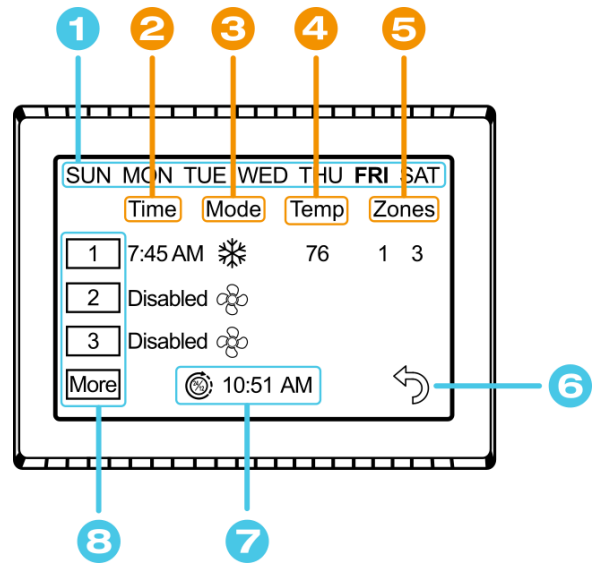
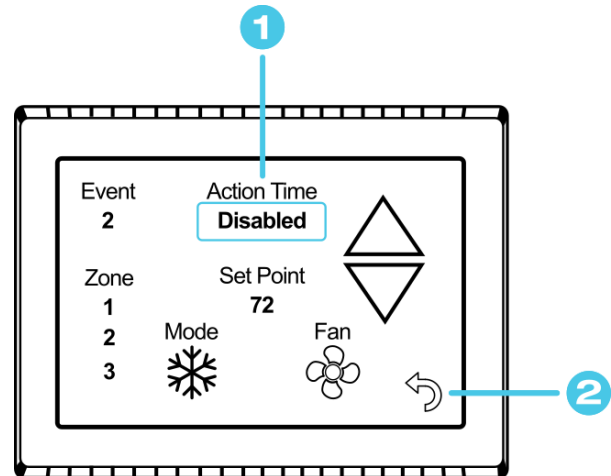
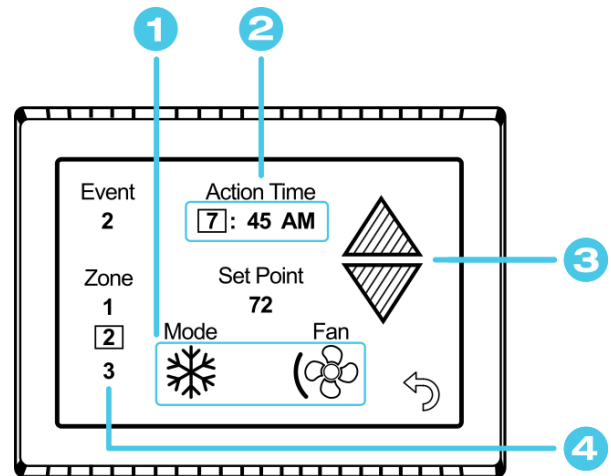

Figure 5 - Main Schedule Screen
Figure 6 - Schedule Edit Screen (Disabled Event)
Figure 7 - Schedule Edit Screen (Enabled Event)
The schedule supports 7 day per week scheduling of events. Events can include changes to the set point or mode of operation for one or more zones. Each numbered row is an event that can be configured. *Figure 5* shows the main schedule screen. Tap the “Schedule” button from the *Settings Screens* to enter.
Events are numbered 1 to 6 along the left side of the screen. Each row is a numbered event. Tap an event to edit it and advance to the schedule edit screen, shown in Figure 6. Tap “More” to see events 4, 5, and 6.
Figure 6 shows the edit screen when an event is tapped as shown in (8) *Scheduled Events* of *Figure 5 - Main Schedule Screen*. The event time on the main schedule screen and Action Time in the edit schedule screen will show disabled until a time is set. Tap “Disabled” (1) at the top of the screen to show a gray box around the Action Time to select it. The up and down arrows change to full color once a selection is made. Use the arrows to make a change to what is selected. Use the back arrow (2) to save any changes and leave the screen.
Figure 7 shows the schedule edit screen once a valid time is set for the event.
1. Tap the edit schedule button as described in the *Schedule – Edit, Enable or Disable* section in settings to enter the main schedule screen, shown by *Figure 5*.
2. Ensure that a valid (7) *System Time* is shown. Tap the day you want to set up a schedule for, then the event you want to edit, all shown by *Figure 5*. Tapping the event will take you to the edit schedule screen, shown by *Figure 6* and *Figure 7*.
5. Tap the back button once again to return to the settings screen. Activate the schedule by pressing the schedule button with the “Enabled/Disabled” subtext as described in the *Schedule – Edit, Enable or Disable* section in settings. When enabled, it may also be noted on the (11) *Info Screen*, under the *Main Screen*.